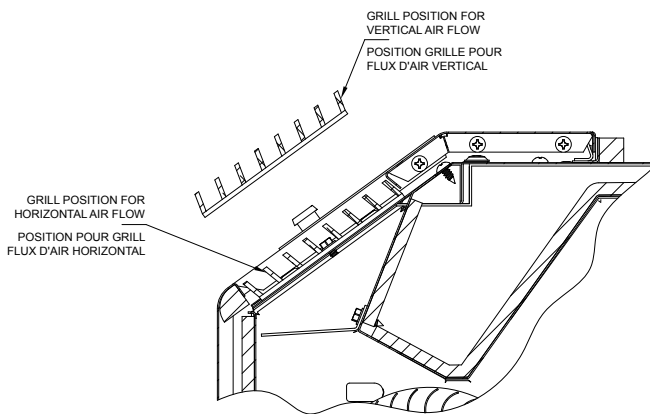

Figure 13
1. Remove the display panel (save the 5 screws for re-use (See Figure 13).
A. HEAT MODE - Initial Lighting Instructions (See Figure 13)
B. COOLING MODE - Normal Operation (See Figure 13)